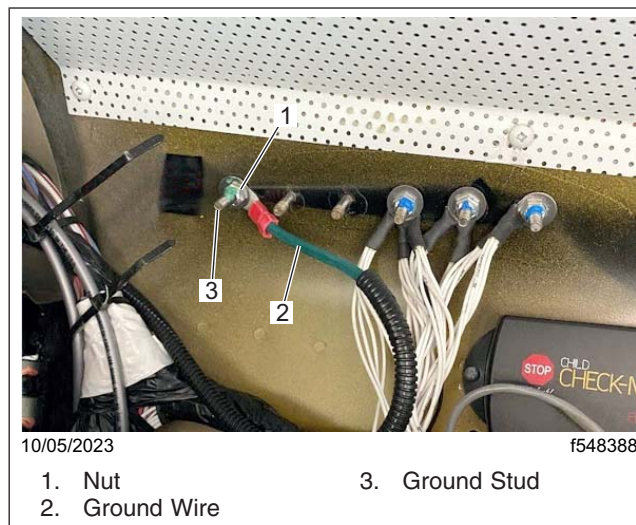

Fig. 1, Location of the A/C Ground Connection
5. Inspect the nut on the grounding stud to make sure it is securely fastened. See Fig. 1.